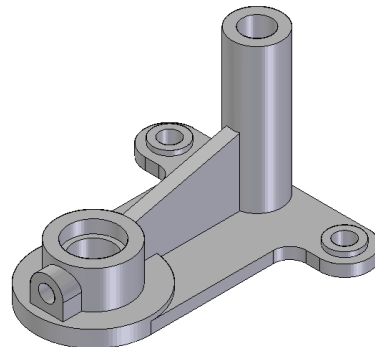

Figure 8-62 Model after creating the rib feature
- d. Create the rib feature, refer to Figure 8-62.
7. Choose **Finish** from the ribbon bar to create the rib feature. The final model, after creating the rib feature, is shown in Figure 8-62.